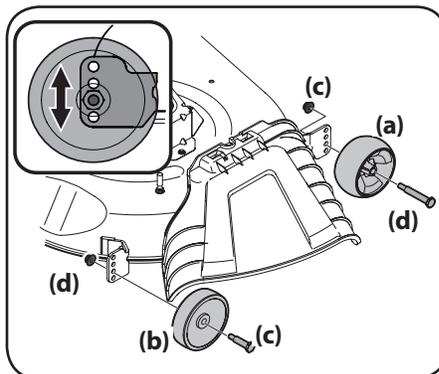

Figure 2-12
- b. Remove the front (a) and rear (b) deck wheels by removing the flange lock nuts (c) and shoulder bolts (d) that secure them to the deck. See Figure 2-12.